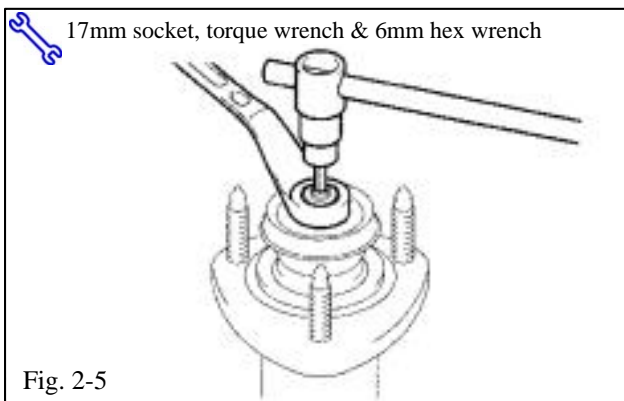

Fig. 2-5
- (g) Torque the new shock absorber shaft lock nut (Fig. 2-5).